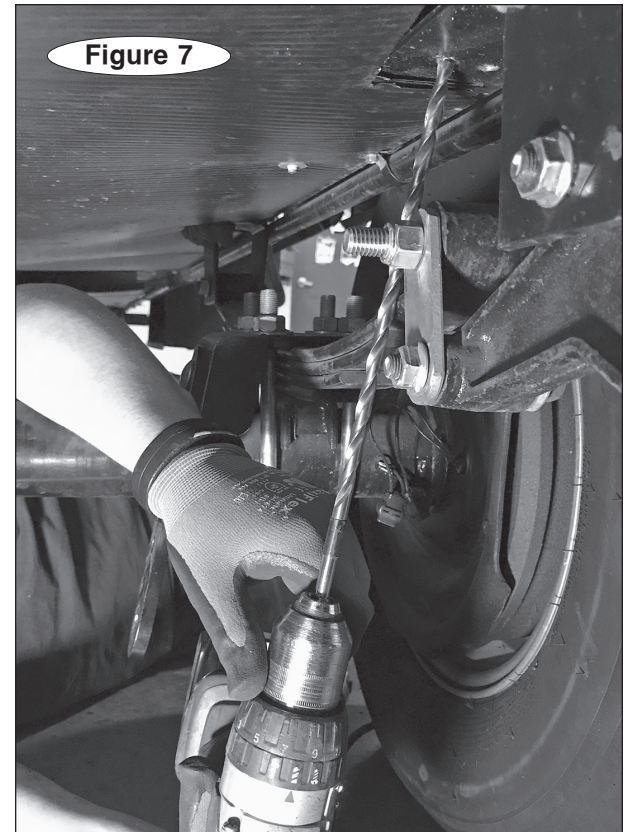

Figure 7
d. Using a 12" long, 21/64" diameter drill bit, drill four holes in the frame on the spots you marked above (Figure 7).